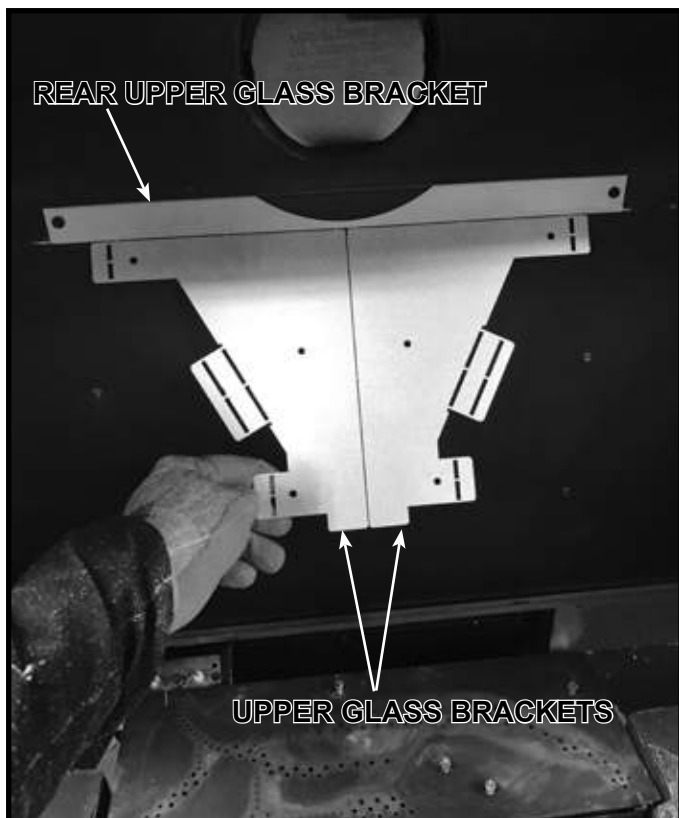
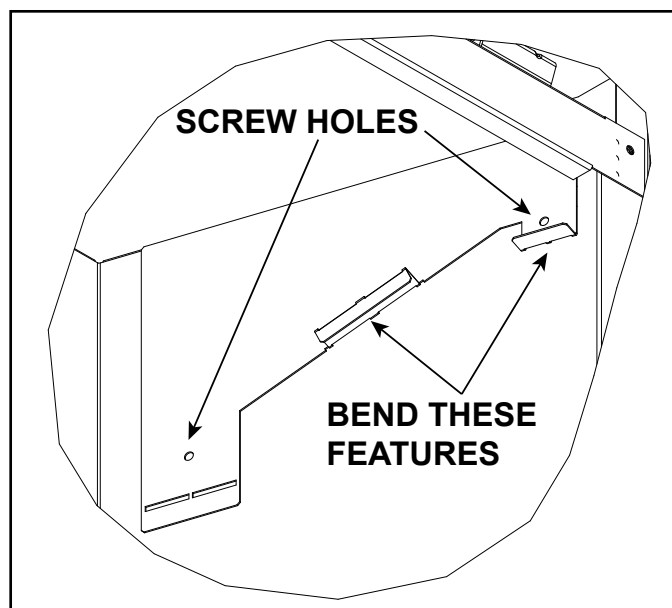
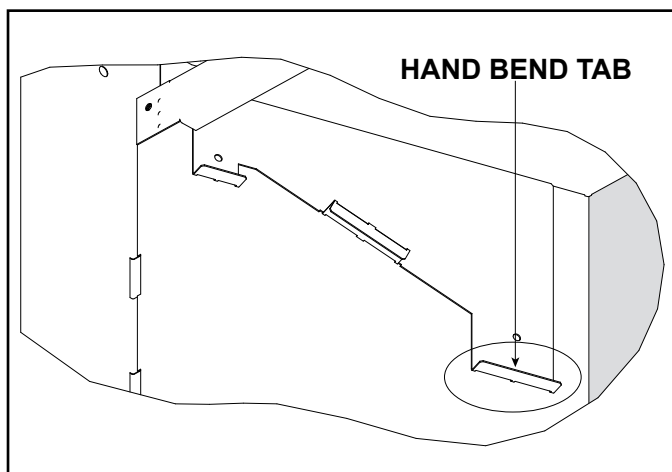

Figure 11.11 Remove Upper Glass Brackets
Figure 11.13 Bend Upper Glass Brackets
Figure 11.14 Upper Glass Brackets Installed (Left Upper Bracket Shown)
3. Remove the upper glass brackets from the back of the firebox by pulling forward on the bottom edge to break them free. Then separate them by breaking them apart. See Figure 11.11 and 11.12. Bend the "Right" bracket as shown in Figure 11.13. Bend the "Left" bracket shown in Figure 11.14.
4. Install right upper glass bracket by pushing the bracket "up" to the firebox top and "out" to the front face of the firebox. The front edge of the bracket should be tight to the firebox face and the top edge of the bracket should be tight to the firebox top. Install the bracket by inserting the two self-tapping screws through the bracket into the firebox. See Figure 11.13. Repeat this step for left upper glass bracket installation.
6. With one hand on the rear glass panel, bend "up" one hand bend tab on the upper glass bracket to approximately 90 degrees. See Figure 11.14. Bend "up" the hand bend tab on the opposing bracket. The rear glass panel is now installed. This panel will be held in place by the side panels once they are installed.